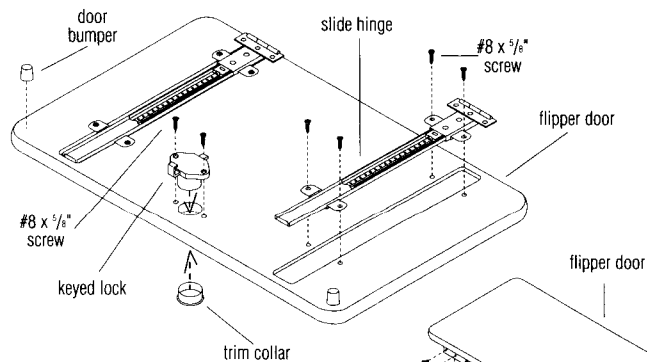

Figure 6
17. Lay flipper doors, with the back side up, on a soft protective surface. Attach two slide hinges to each flipper door with four #8 x 5/8" screws per hinge. Peel adhesive backing from door bumpers and attach two bumpers to the back of flipper door at corners shown (Figure 6).
18. Orient keyed lock as shown and insert into socket from backside of flipper door. Holding the flipper door up and the keyed lock in place, press the trim collar into the socket. Fasten the keyed lock to the flipper door back with two #8 x 5/8" screws. (Figure 6).